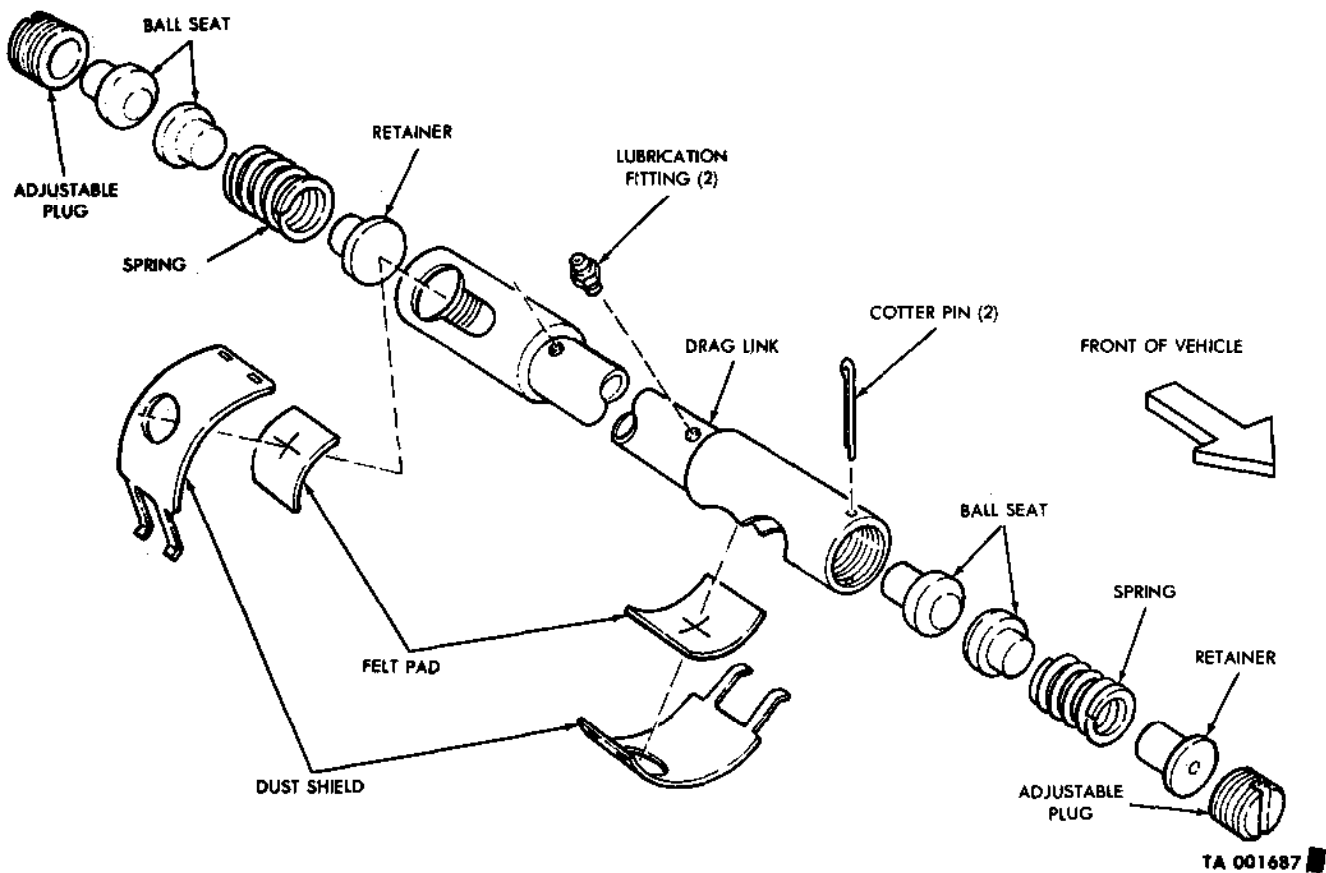

Figure 175.12. Drag link - exploded view.
(1) Remove drag link assembly. Refer to a above.
(2) Remove and discard adjustable plugs from both ends of drag link.
(3) Remove and discard retainer, spring, and two ball seats from each end of drag link.
(4) Install components of repair parts kit in drag link, as illustrated by fig. 175.12.
(5) Install drag link assembly. Refer to b above.